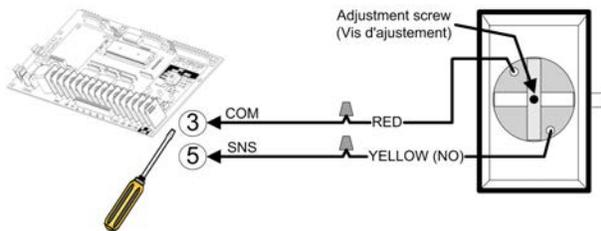
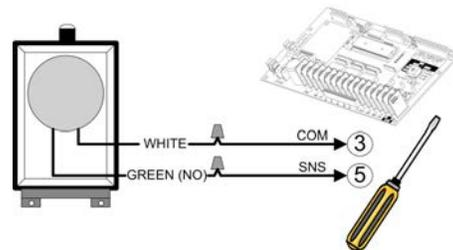

Figure 33 - AIRSWITCH 001 / 007
Figure 34 - AIRSWITCH 009 / 018
3. Use a coil cord or take-up reel to connect the air switch to the operator terminals. Install electric wires according to Figure 33 or Figure 34.